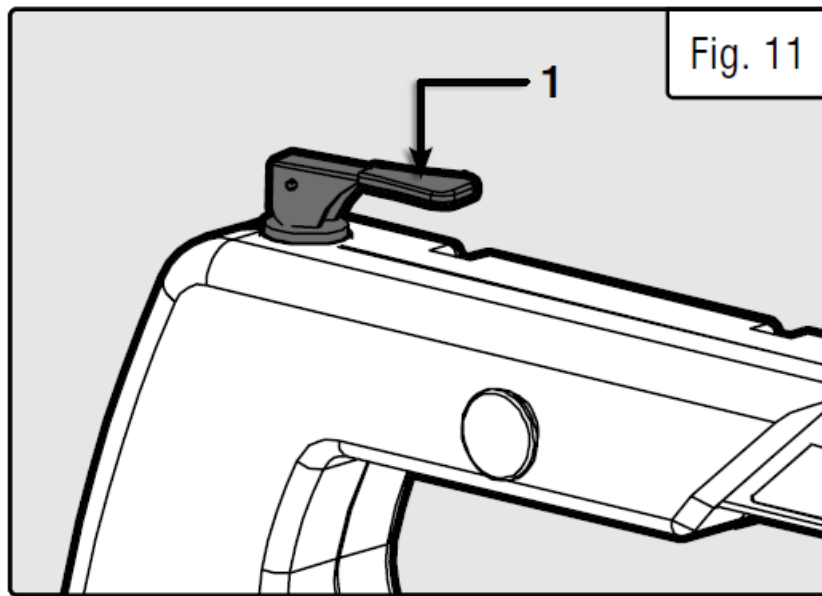

Fig. 11
1. To remove the blade, relieve the tension on it by lifting the blade tension lever (Fig. 11 – 1). If necessary, turn the lever counterclockwise to loosen the blade holder further.